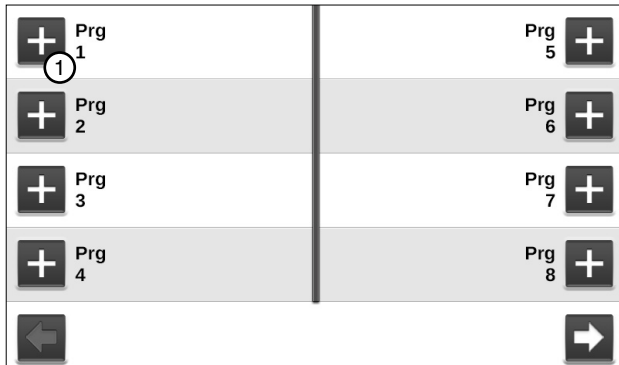

Figure 120-1 Step Programs Screen
2. Push the **New Program** button corresponding to the preferred program number as shown in Figure 120-1.